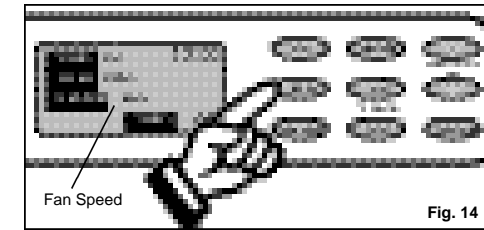

Fig. 14
- 5) Press the **FAN** key to select the desired fan speed setting (**Low-Med-High**). See *Fig. 14*. Your selection will be displayed in the **LCD** window (each depression of the fan key will advance to a different setting).